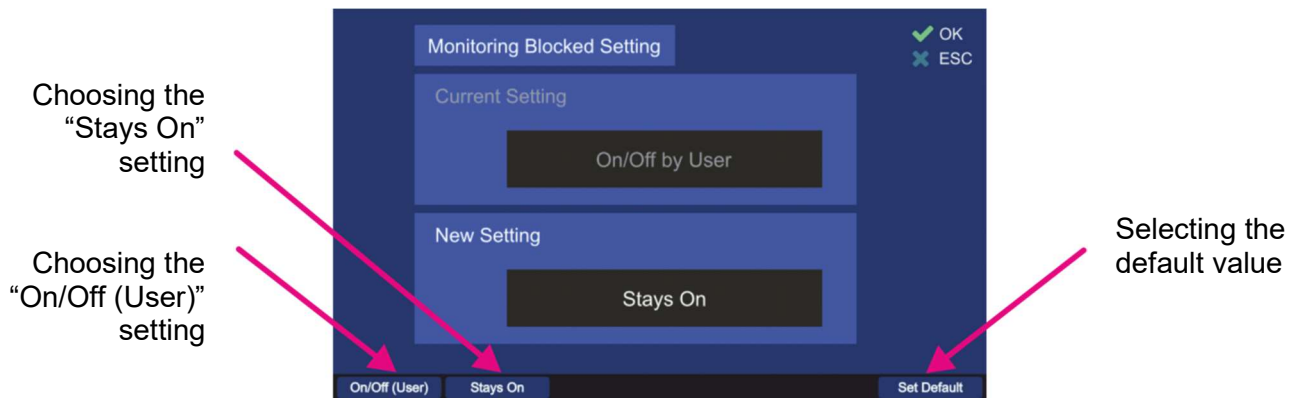

Figure 129. Monitoring handling settings
There are two possible settings in this menu (s. Figure 129).
- Choose the new setting using one of the hotkeys (s. Figure 129), which will then appear in the “New Setting” field.